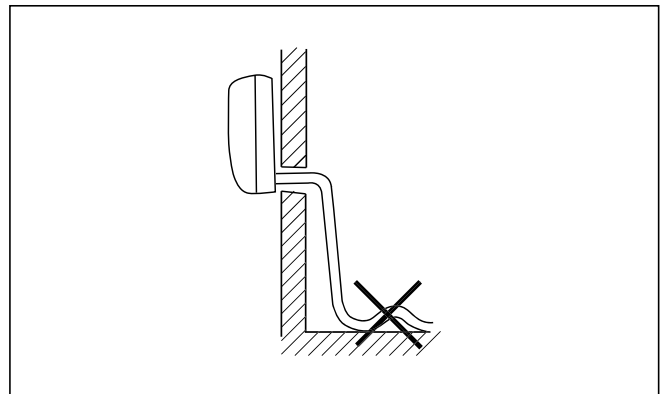

Fig. 9.4 Avoid crimping.
- Avoid installing the condensed water pipe with crimping (see Figure 9.4).